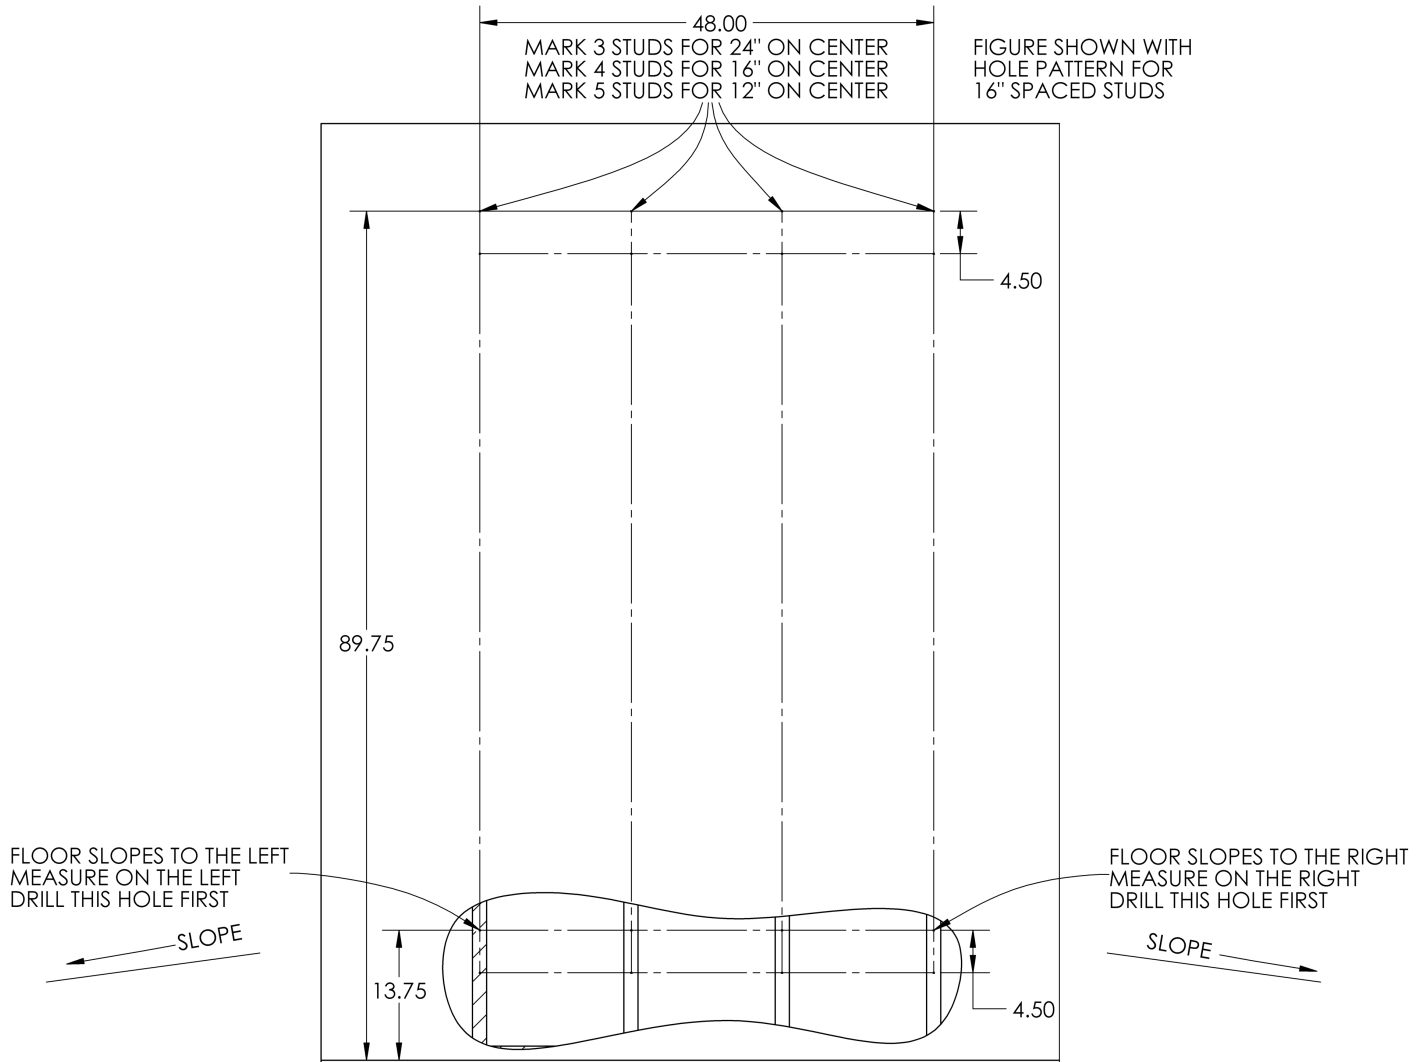

Figure 1. Stud and hole locations
1. Begin by determining if your floor slopes down to the left, down to the right, or is flat. (**Figure 1**).
2. Locate two studs spaced 48" apart, and all studs in between, using a stud finder (**Figure 1**).
3. Based on step 1, mark the first stud at 89-3/4" and 13-3/4" from the floor (**Figure 1**).
5. Using the 1/2" socket and the impact driver, install the upper wall bracket (12) with a 5/16" lag screw (1) and 5/16" flat washer (2) through the top hole of the wall bracket that is flush to the wall. Do not fully tighten the lag screw.